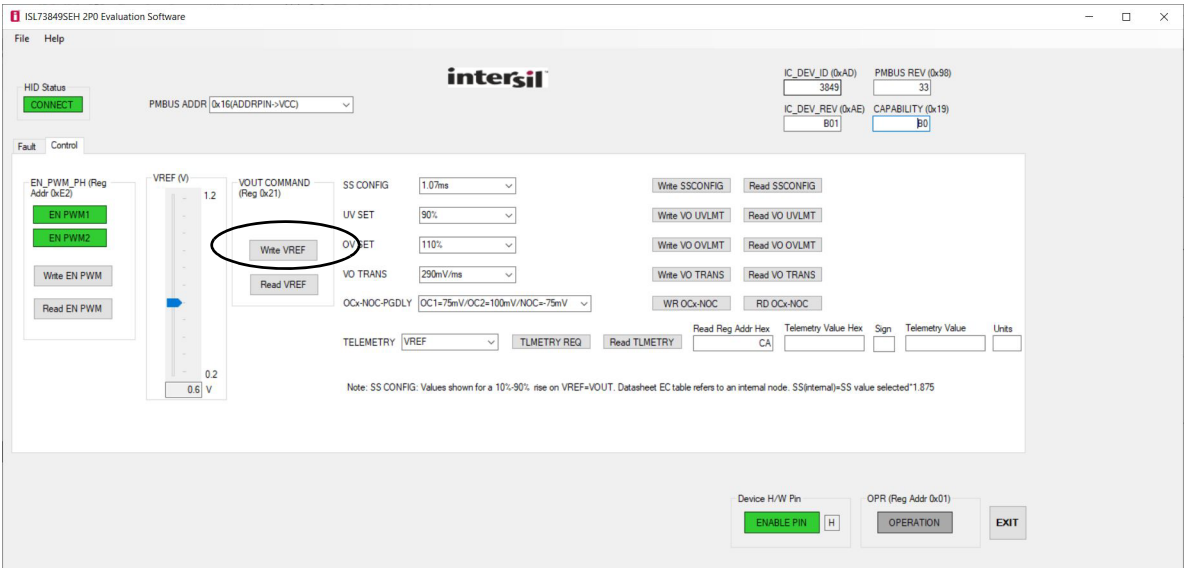

Figure 5. Change the VREF
11. Program the PWM Controller VREF to 0.6V by clicking **Write VREF** as shown in Figure 5.